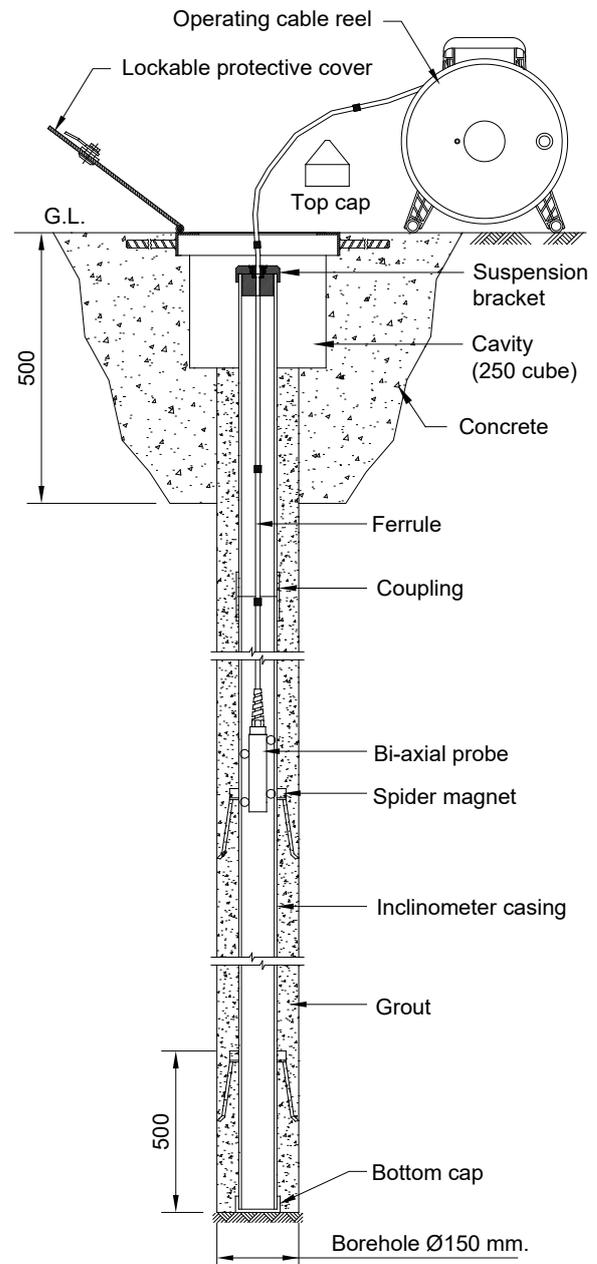

Figure 5-1 Taking readings
- d. Raise probe along entire length of gage well from bottom to top, resting the ferrule (at 0.5 m interval on inclinometer cable) over the suspension bracket. Refer to figure 5-1. This will give readings at intervals of 0.5 m. The two sensors inside the probe will sense the inclination of the casing in two planes at right angles to each other.